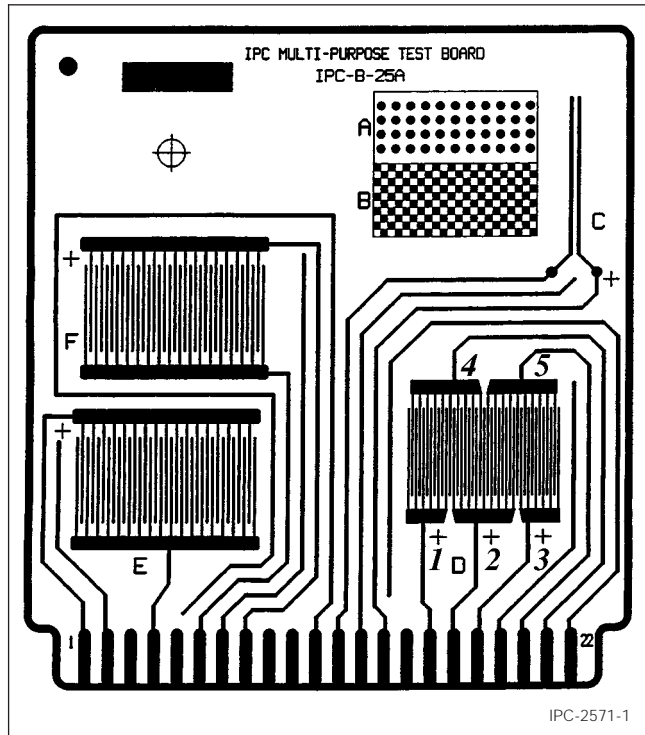

Figure 1 IPC-B-25A Test Board (Leads on D Pattern Are Identified)
3.1 Qualification Testing, Classes 1-3 Five IPC-B-25A boards (see Figure 1) using the D comb pattern (one uncoated and four coated) with conformal coating according to the coating suppliers recommendations.
3.2 Conformance Testing Five IPC-B-25A Boards (See Figure 1) containing the C pattern ("Y" shape pattern) with 0.635 mm lines/0.635 mm spacing [25.00 mil lines/25.00 mil spacing] or minimum spacing on the production board, whichever is smaller, coated with conformal coating according to the coating supplier's recommendations.